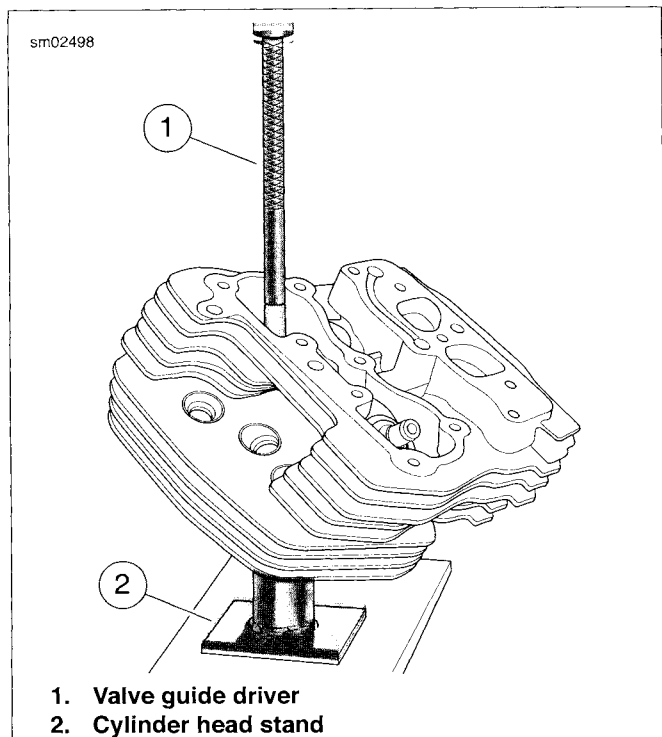

Figure 3-101. Remove Valve Guide
3. At top of the cylinder head, insert VALVE GUIDE DRIVER (Part No. B-45524-1) (1) into valve guide bore until stopped by shoulder.
4. See Figure 3-101. Center valve guide driver under ram of arbor press. Apply pressure until valve guide drops free of cylinder head. Discard valve guide.